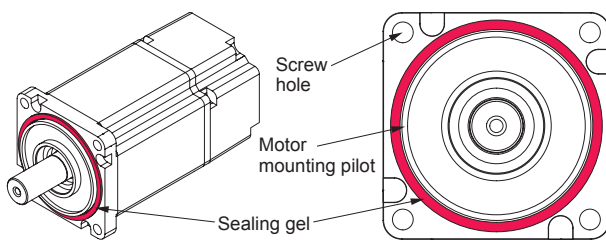

Figure 30: Sealing gel applied on the motor flange.
- Apply the sealing gel **26** to the cleaned flange of the motor **7** as it is presented on the Figure 30 (the gel must be applied continuously in a closed loop around the motor mounting pilot on surface that comes into the direct contact with tensioning plate **6** (make sure that the screw hole are outside the sealing gel); it should be noted that surface shape may vary depending on the motor manufacturer, model and size).